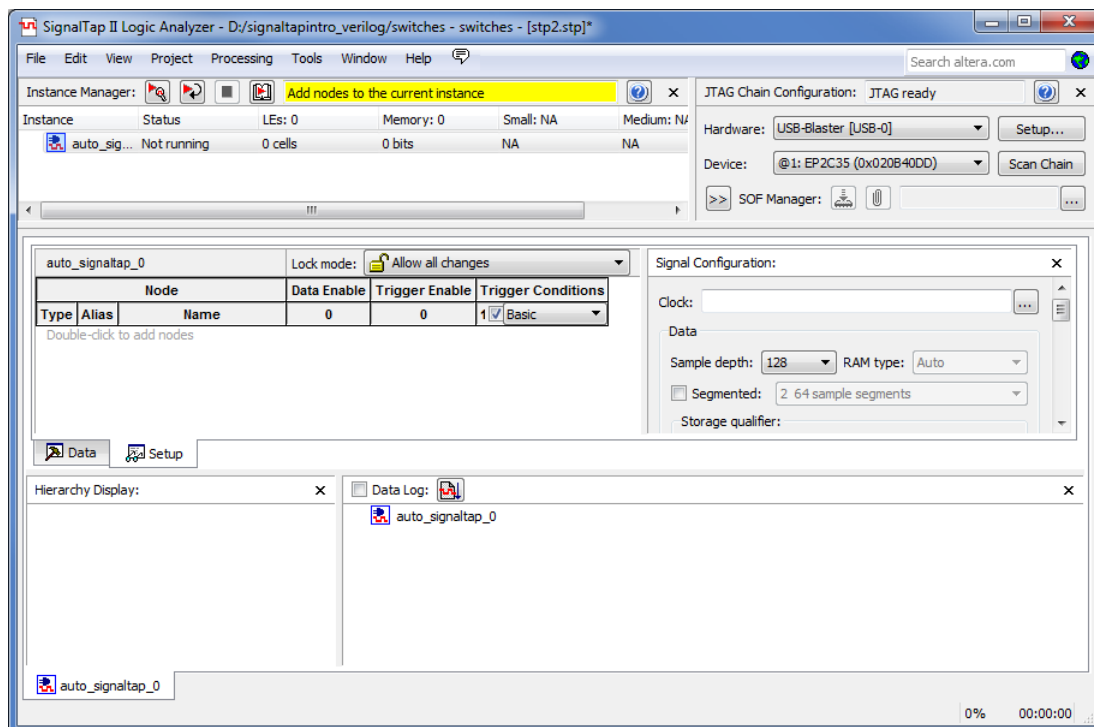
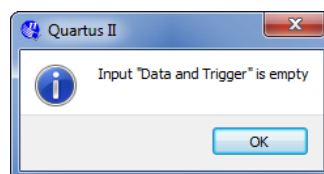
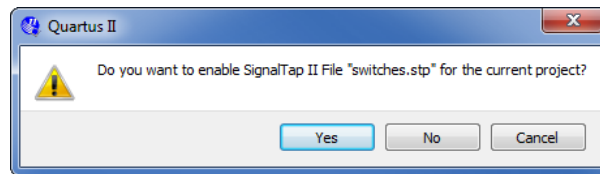

Figure 3. The SignalTap II window.
Figure 4. Click OK to this dialog.
Figure 5. Click Yes to this dialog.
2. The SignalTap II window with the Setup tab selected is depicted in Figure 3. Save the file under the name *switches.stp*. In the dialog box that follows (Figure 4), click OK. For the dialog "Do you want to enable SignalTap II file 'switches.stp' for the current project?" click Yes (Figure 5). The file *switches.stp* is now the SignalTap file associated with the project.